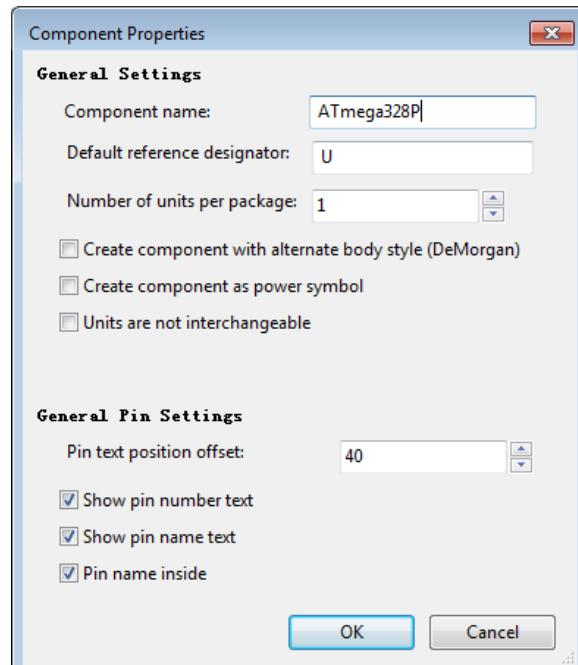

Figure 10: Create component dialog box.
4. Click the “Create a new component” button. A dialog box will appear (Fig. 10). Put “ATmega328p” as the component name. Leave everything else as default. Worth mentioning is the “Number of parts per package” setting. Sometimes a